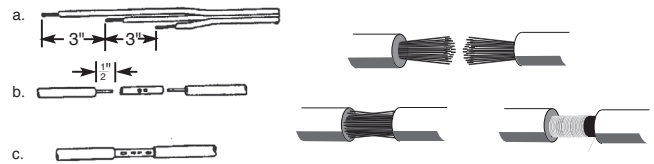

Figure 1A: Cable Splicing: Solid Wire, Stranded Wire
Prepare the cable and make the mechanical connections (Figure 1A) and splices as follows:
- 5A. BUTT CONNECTORS (Figure 1A): Insert wires into connector until insulation butts up against connector. Crimp connector to wires with a pair of crimping pliers. Pull on cable to make sure the connection is solid and tight.
5B. SOLDERED CONNECTIONS (Figure 1A):